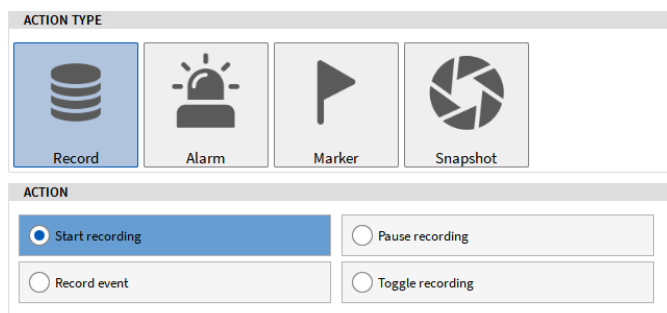

Figure 7-22: Start Recording Action Type
- Select *Start recording* as Action Type (see Figure 7-22):